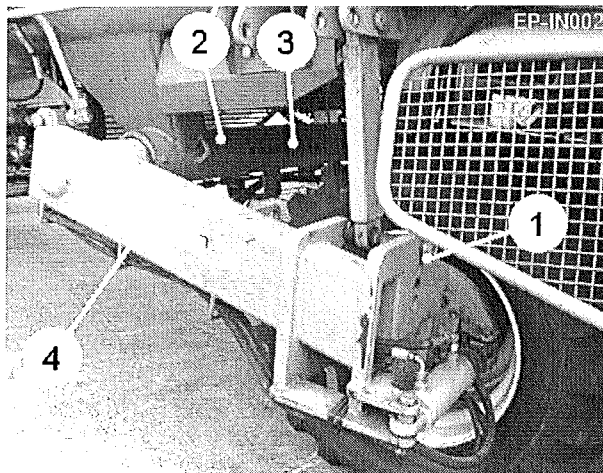
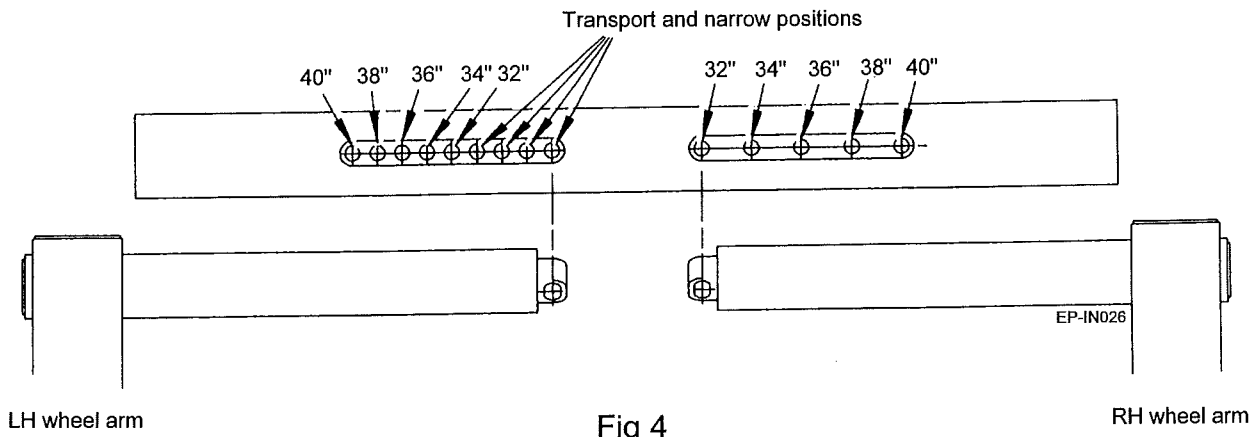

Fig 3
Fig 4
When the wheel is clear of the ground, place an axle stand (minimum capacity 2500 kg) under a suitable part of the chassis frame. Adjust the jack until the retaining pin (item 1, figure 3) of the levelling ram/support leg is loose and can be removed. The axle can then be raised or lowered until the hole in the levelling ram/support leg aligns with the required hole and the retaining pin can be replaced. Repeat the operation on the opposite side of the machine ensuring both sides are set to the same position.
Fit the two halves of the PTO shaft onto their respective drive shafts on the machine and tractor. Check the shaft length by turning the tractor fully in both directions with the machine in its working position while attached to the tractor's pick-up hitch. Ensure the sliding tubes, when fully extended, have an overlap at least half the closed length (see figure 3). Ensure that the ends of the sliding tubes when at the shortest point are not in contact with other parts of the PTO shaft. If necessary, shorten both tubes and guards equally to achieve end clearance at the minimum length position.
Place chocks at the front and rear of the opposite side wheel to the one being adjusted. Jack up the machine using the jacking point situated under each axle radius arm. Place an axle stand under the axle beam (item 2, fig 3) and lower the jack to allow the axle stand to take the weight of the machine. Remove the axle beam pin (item 3, fig 3). Slide the axle (item 4, figure 3) to the required position (see figure 4) and replace the pin. Repeat the operation for the opposite side wheel. Both axles must be set correctly even though the RH wheel runs on cleared ground. Ensure linchpins are refitted after adjustments have been completed.